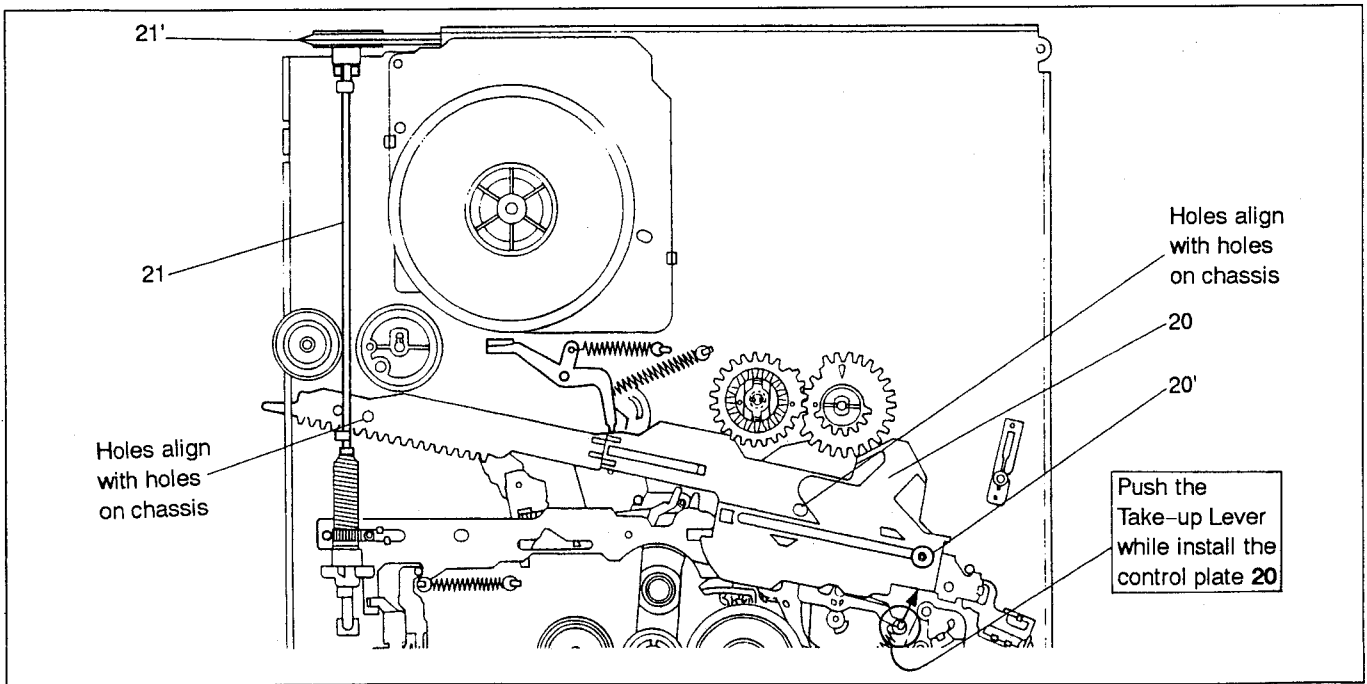

Fig. 2-4-12
20) Push the Take-up Lever with the two holes aligned with the holes on the chassis (see Fig. 2-4-12). In this condition install the Control Plate and the slit washer (20').